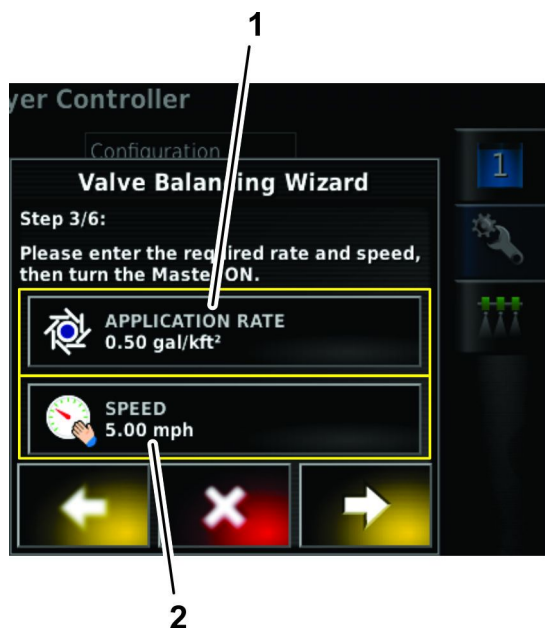

Figure 136
4. At step 3 of the valve balancing wizard, If you need to set an different application rate press the application rate icon (Figure 136).
6. At step 3 of the valve balancing wizard, If you need to set an different sprayer ground speed, press the speed icon (Figure 136).